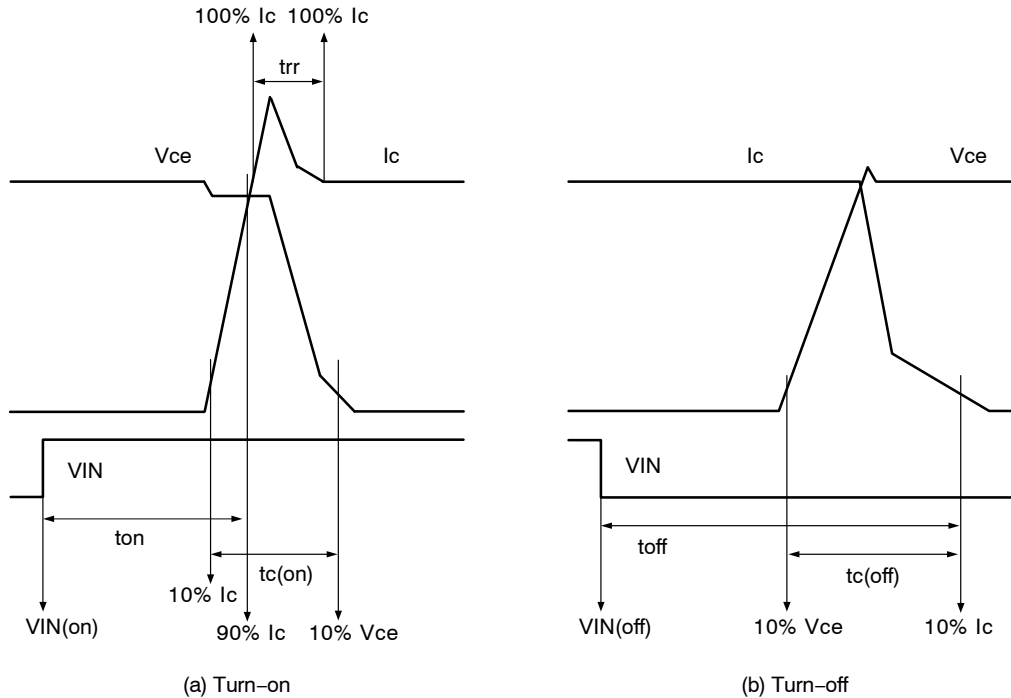

Figure 3. Switching Time Definitions
6. t_{on} and t_{off} include the propagation delay time of the internal drive IC. $t_{c(on)}$ and $t_{c(off)}$ are the switching time of IGBT itself under the given gate driving condition internally. For the detailed information, please see Figure 3.